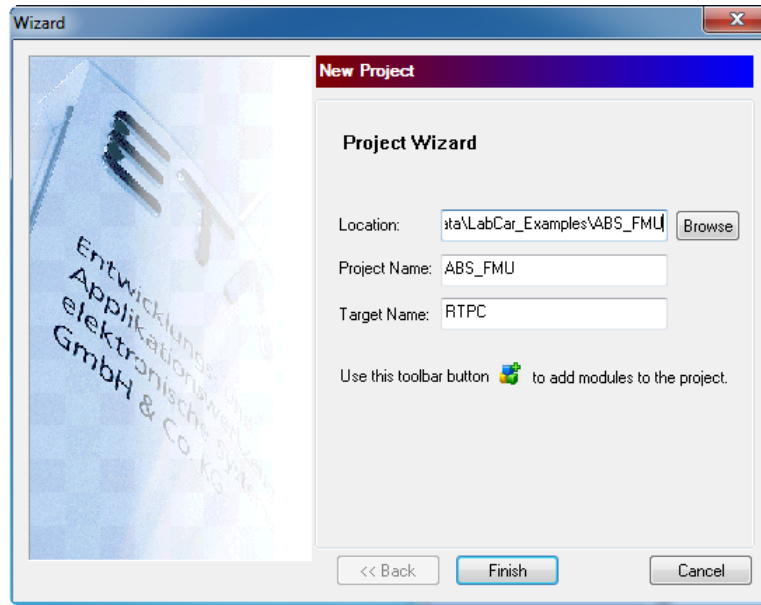
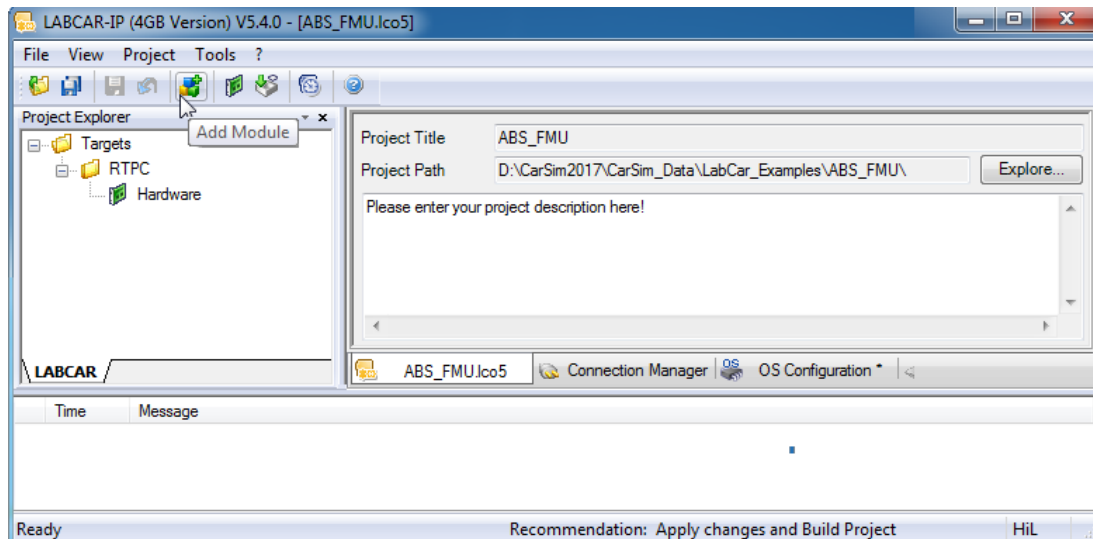
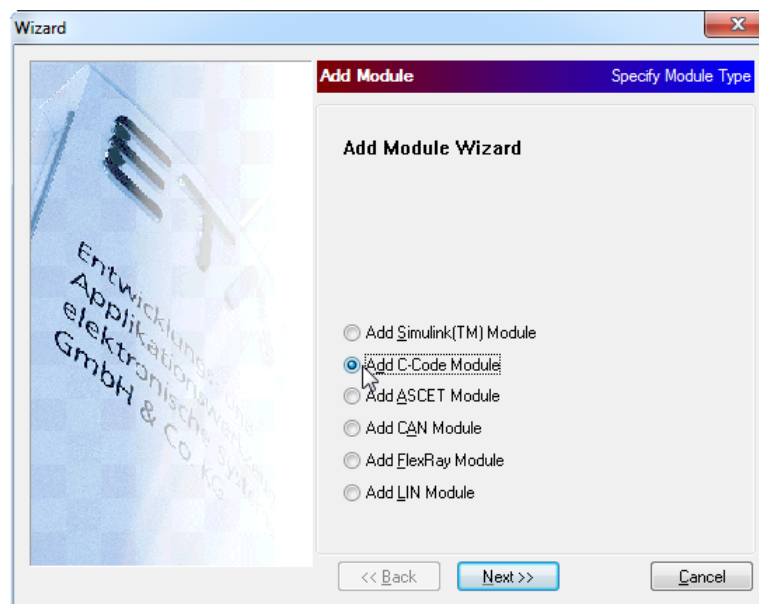
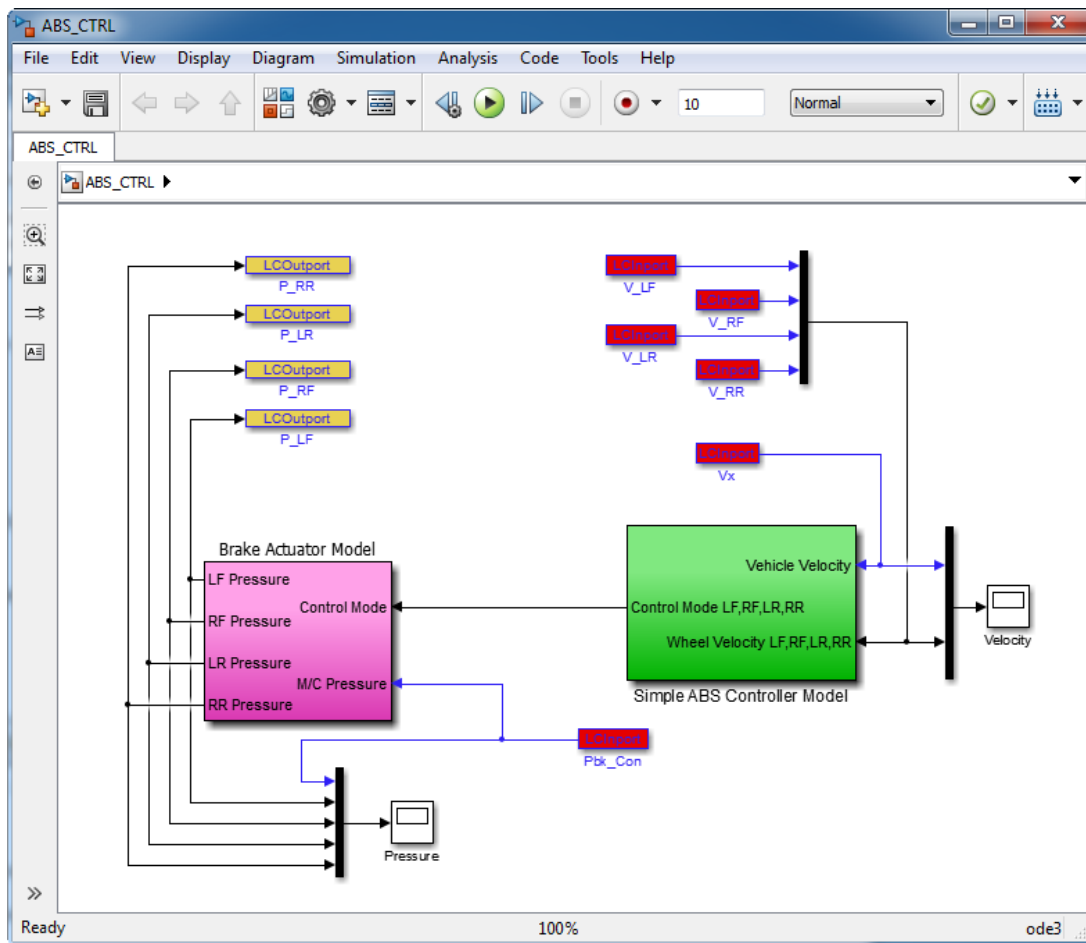

Figure 26. Select Project location and name.
Figure 27. LabCar-IP Project main window.
Figure 31. Select Add C-Code Module.
Figure 34. ABS Controller Simulink Model (without vehicle solver).
2. Create or select a project location and type in a project name, e.g. ABS\_FMU (Figure 26). In this example, we are creating a project in CarSim\_Data\ETAS\_Examples\. Click on **Finish** and open the LabCar-IP main window, Figure 27. Leave LabCar-IP open but minimize the screen.
9. Open LabCar main project window (see Figure 27) and click **Add Module** icon. An add module wizard pops up, Figure 31. Select **Add C-Code Module** and click the **Next**.
12. In the LabCar window (Figure 27), click Add Module icon to add the Simulink model ETAS\_Examples\Simulink\_Models\ABS\_Controller\_Only\abs\_ctrl.mdl (Figure 34). Make sure to check mark **Copy Model Directory into Project**.